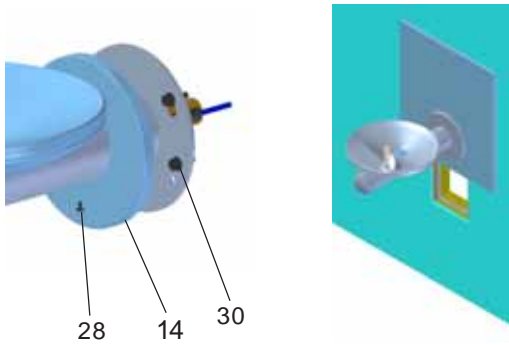

Figure 10 - Fountain Installation
- Install fountain.** Remove screw (Item 28) from cover plate and slide cover plate (Item 14) toward basin. (See Figure 10)